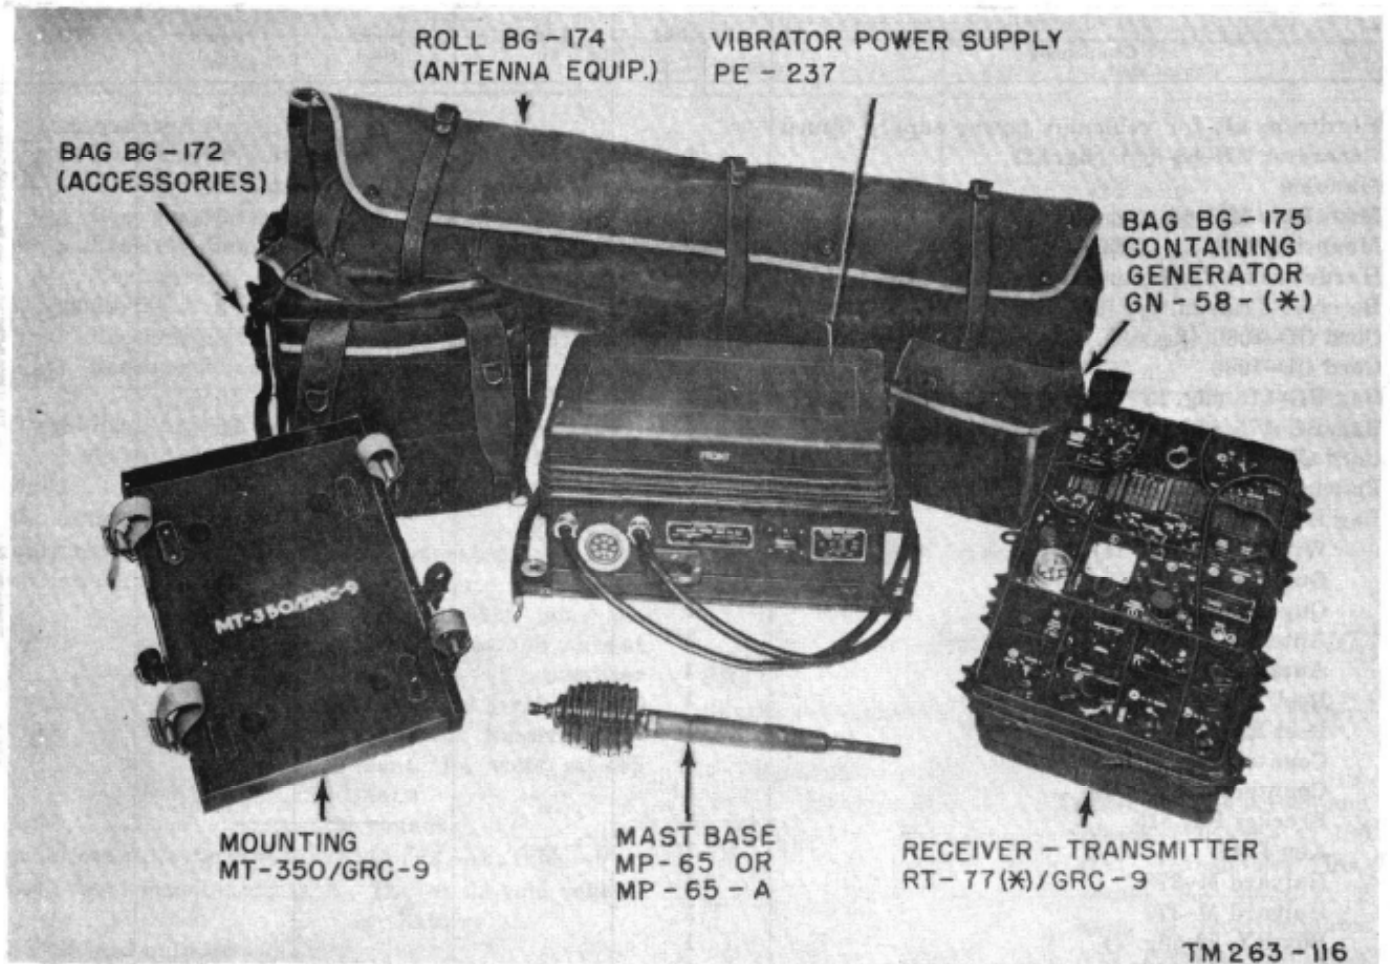

Figure 4. Components of Radio Set AN/GRC-9.
a. The receiver-transmitter (fig. 4) consists of separate receiver and transmitter sections. These sections are mounted in a metal case that has a tight-fitting removable metal cover. This panel
18. Description of Mounting MT-350/GRC-9 (fig. 4)
Four carrying bags are provided for transporting the equipment. They are of olive drab color and are constructed of heavy canvas. Leather straps are provided for ease of carrying the equipment. The contents of **Bag BG-175** (figs. 4 and 13), **Bag BG-172** (figs. 4 and 5), **Roll BG-174** (figs. 4 and 6), and **Bag CW-140/GRC-9** (fig. 42) are described in paragraph 7.